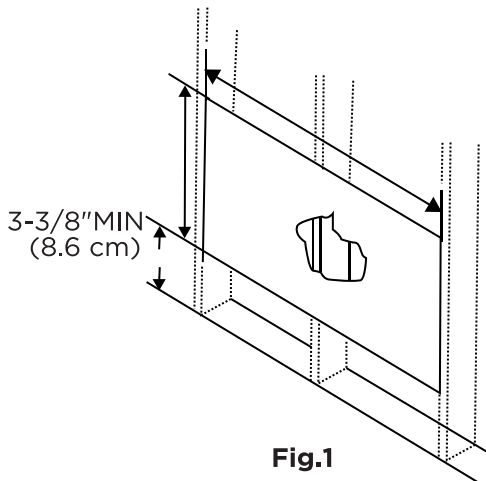
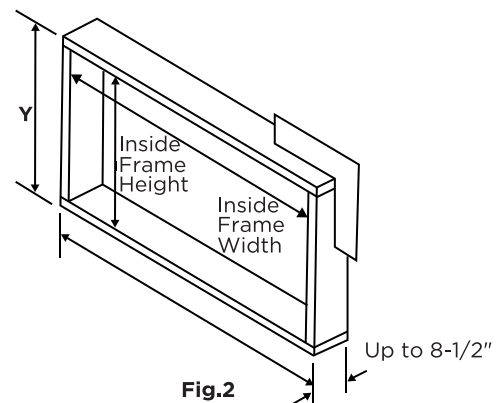

Fig.1
Fig.2
- (1) Prepare wall in frame construction (including brick and stucco veneer). Working from inside the room, find wall stud nearest the center of area where air conditioner will be installed (by sounding wall or by magnetically finding nails).
- (2) Cut or knock out a hole on each side of center stud.
- (3) Measure between inside edges of every other stud as shown in Fig.1.
Carefully measure and cut an opening with the following dimensions depending on your model. See Fig.1 and Fig.2.